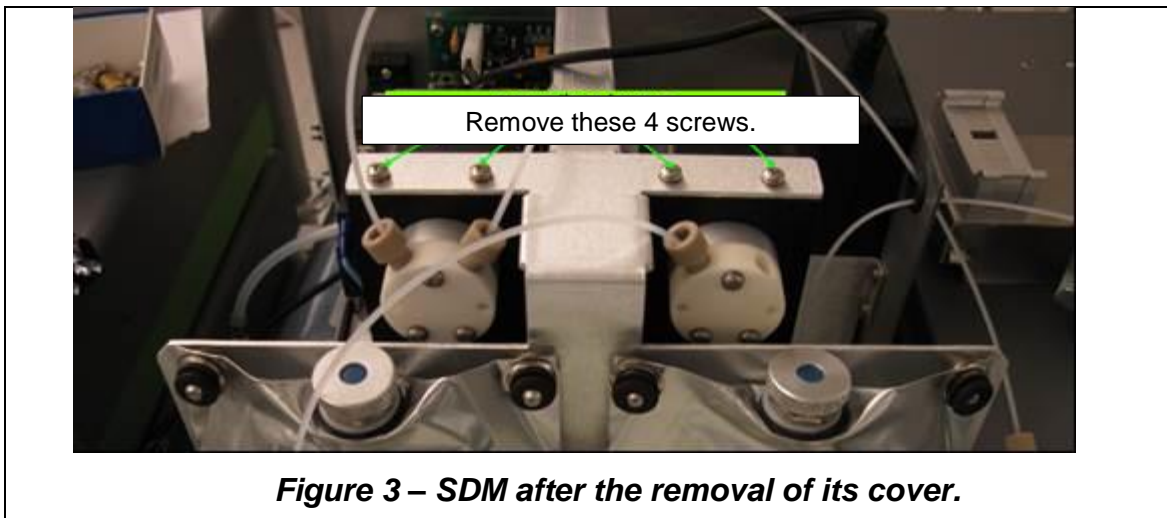

Figure 3 – SDM after the removal of its cover.
- 14 Tighten up syringe barrels by removing support brace: This can be done by removing the 5 screws with a PH1 Screw driver in the positions shown below (Figures 3 and 4).